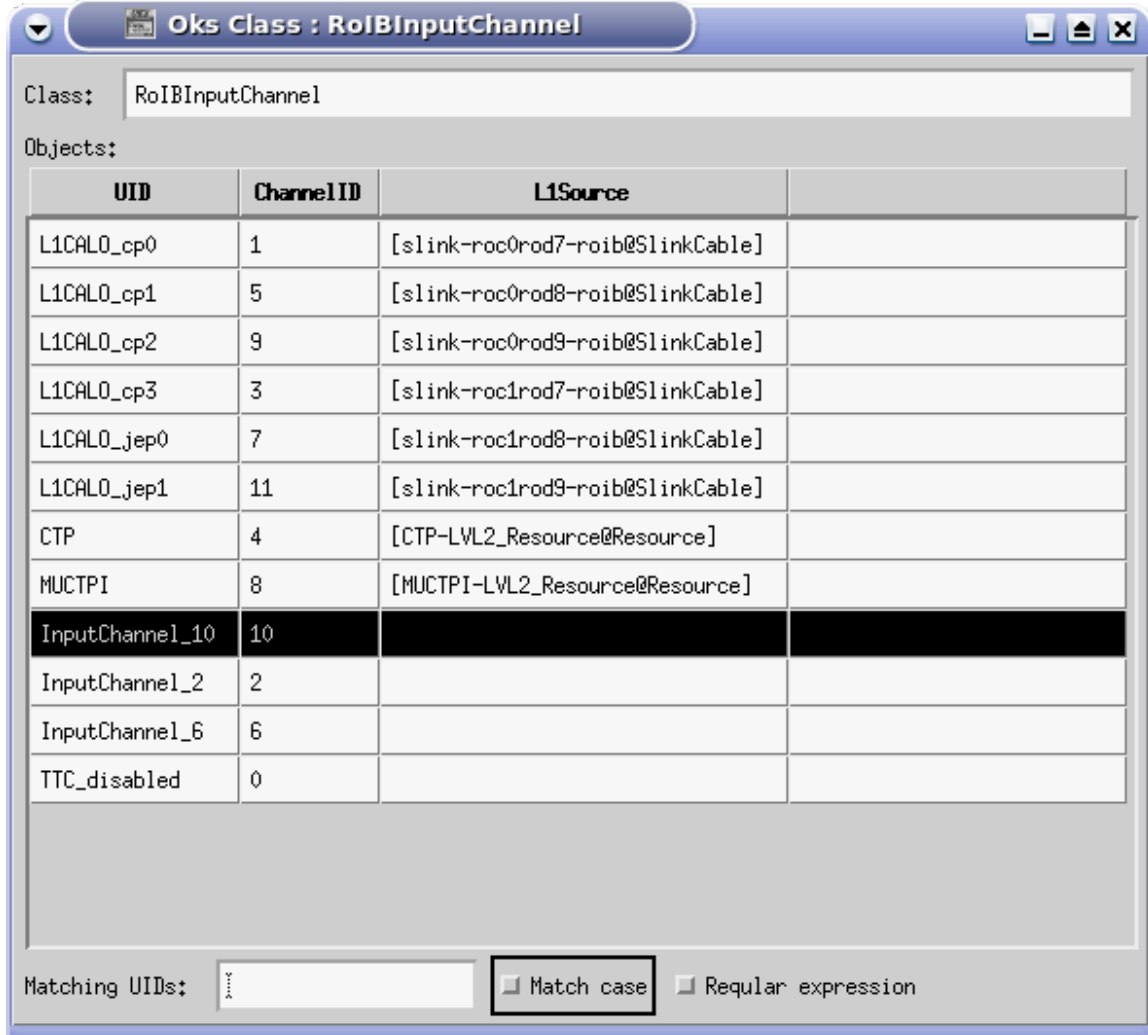

Figure 12: RoIB input definition
- 1) In OKS select RoIBInputChannel L1CALO_jep1 L1source (Figure 12).